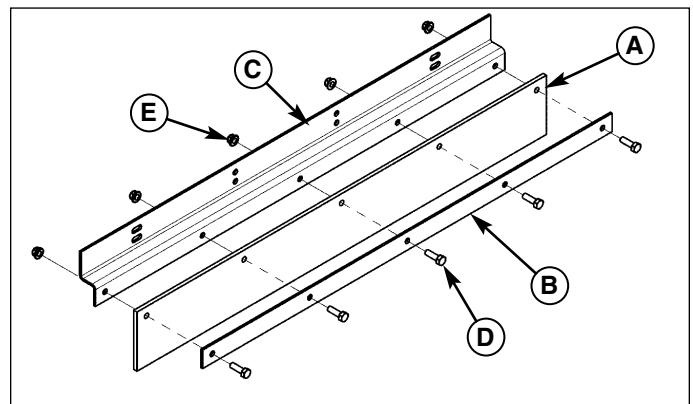

Figure 2. Prepare the Striper Assembly
1. Assemble the rubber flap (A, Figure 2) and support plate (B) on the mount plate (C) and secure with the 5/16-18 x 1" bolts (D) and 5/16-18 nylock flange nuts (E).